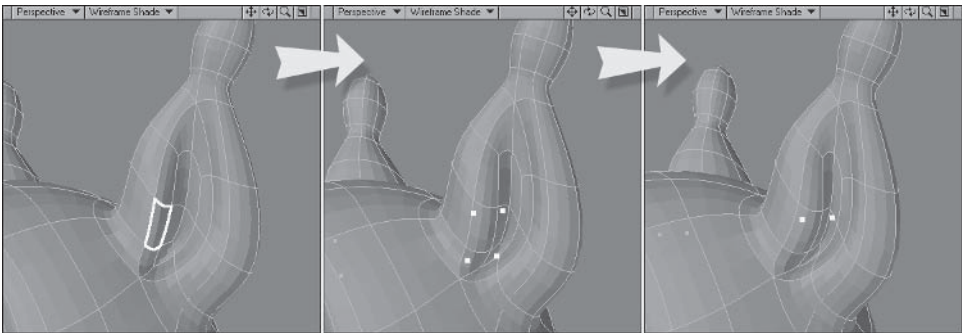

Figure 5.3-59. Although shown here in Perspective view, it's easiest to do this positioning in the orthographic views.
7. Select the polygon shown in Figure 5.3-59 and move it forward and right. Select the points of the same polygon and, in the Back view, move the back two points in line with the front two. Deselect the bottom two points, then move the selected points back, in line with the points above and below.